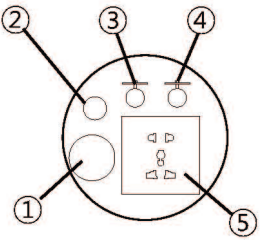

figure 1
3.4.3 If no slot is installed, all the joints are installed in a circle of 180mm. (figure 1)